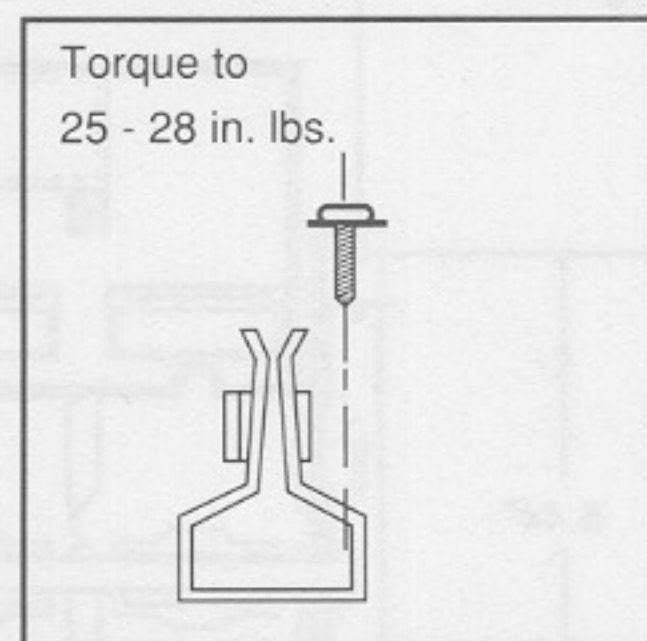

Figure 6
10. Using Figure 6, install the fuse clips provided, on the disconnect device with 1/4-20 x 5/8" long panhead machine screws and tighten.